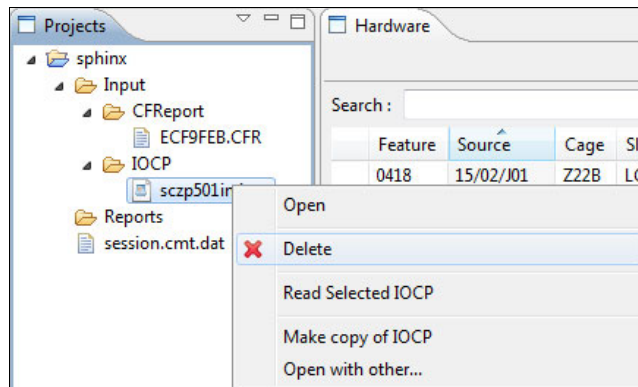

Figure 8-59 CMT - Reading the selected IOCP
3. In the Projects pane, under the Input tab, expand the IOCP tab, right-click the IOCP file, and select **Read Selected IOCP** (Figure 8-59).